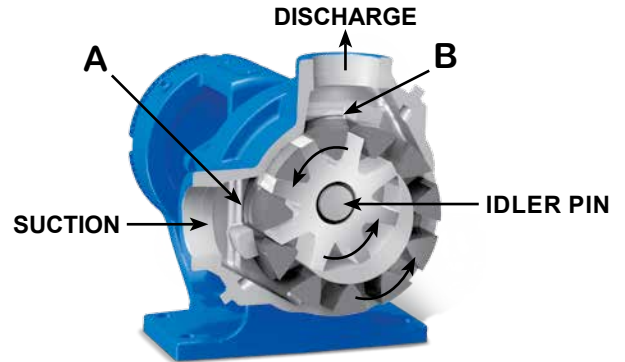

FIGURE 3
- Suction/Discharge** - shaft rotation will determine which port is suction and which is discharge. A look at **Figure 3** will show how rotation determines which port is which; as the pumping elements (gears) come out of mesh, point "A" on **Figure 3**, liquid is drawn into the suction port; as the gears come into mesh, point "B", the liquid is forced out the discharge port.